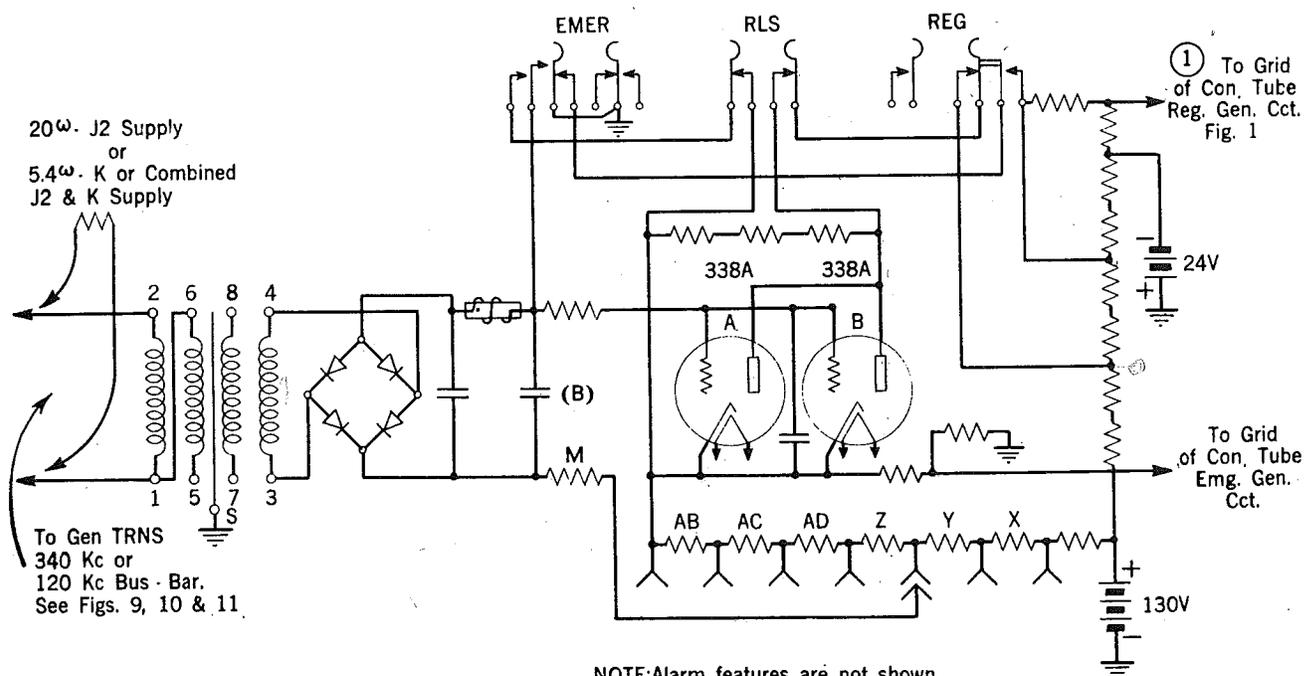

Fig. 12 - Ionization Test of Tubes in Transfer Circuit
3.38 Procedure - (See Fig. 12):
across the GEN TRNS terminals of the 120-kc bus bar. The connecting lead should not exceed three inches in length. This is equivalent to placing the resistance across the input transformer of the carrier transfer circuit as shown in Fig. 12.
3.45 The measurement of the rectified voltage across the B condenser in the transfer circuit (Fig. 12) serves to indicate trouble in the varistor circuit. Also, for K or combined J2 & K supply, the measurement of the rectified voltage across the AL relay in the alarm circuit (Figs. 10 & 11) serves to indicate trouble in the varistor circuit. The requirements of Part 3(G), Carrier Supply Bus Bar Output, should be met before making this test and the measured value of the 120-kc bus bar output noted.
3.47 Procedure - Transfer Circuit - See Fig. 12: